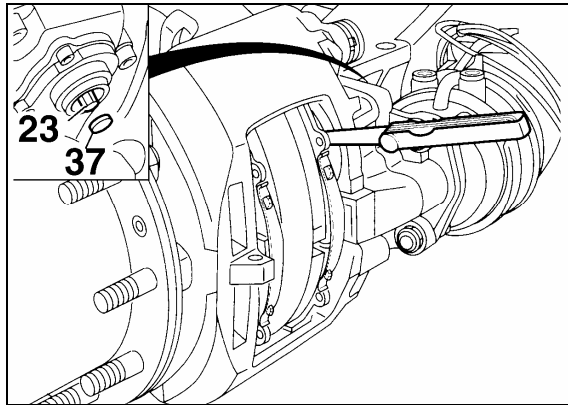

FIGURE 38: RUNNING CLEARANCE
- Insert a feeler gauge 0.028 inch (0.7 mm thickness) between tappet and pad backplate (Fig. 38). Turn adjuster pinion clockwise until 0.028 inch (0.7 mm) clearance is achieved. Replace cap (37) (Prévost # 641313).
- To ensure a constant running clearance between the rotor and pads, the brake is equipped with an automatic adjuster unit. When the pads and rotor wear, the running clearance between the pads and rotor increases. The adjuster (23, Fig. 38) and turning device turn the threaded tubes by the amount necessary to compensate the wear.